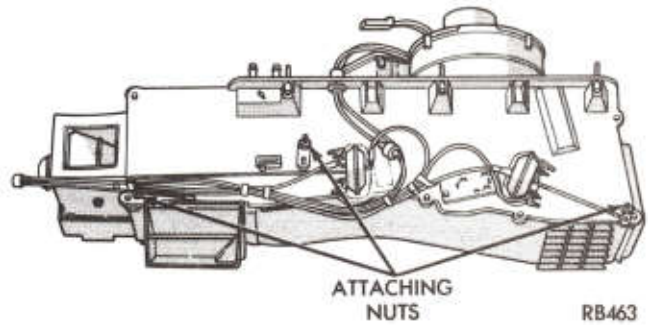
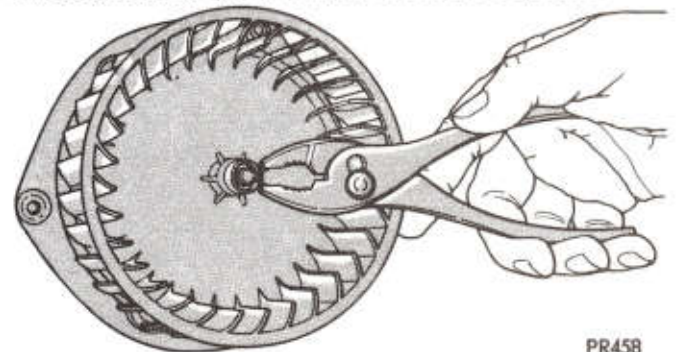

Fig. 6—Removing Door Arms
Fig. 7—Removing Blower Wheel
- (1) Remove one (1) nut each that attaches three door arms to doors on the top cover of the unit and remove the three door arms (Fig. 6).
- (2) Remove seven (7) screws to separate cover from housing.
- (3) Slide out evaporator core.
- (4) Remove mounting screw and slide out heater core.
- (5) Disconnect blower motor feed wire on engine side.
- (6) Remove three retaining screws to separate blower motor from housing.
- (7) Separate fan from motor (Fig. 7).
- (8) Inspect all parts.
- (9) Assemble evaporator heater unit using necessary new parts by reversing this disassembly procedure.